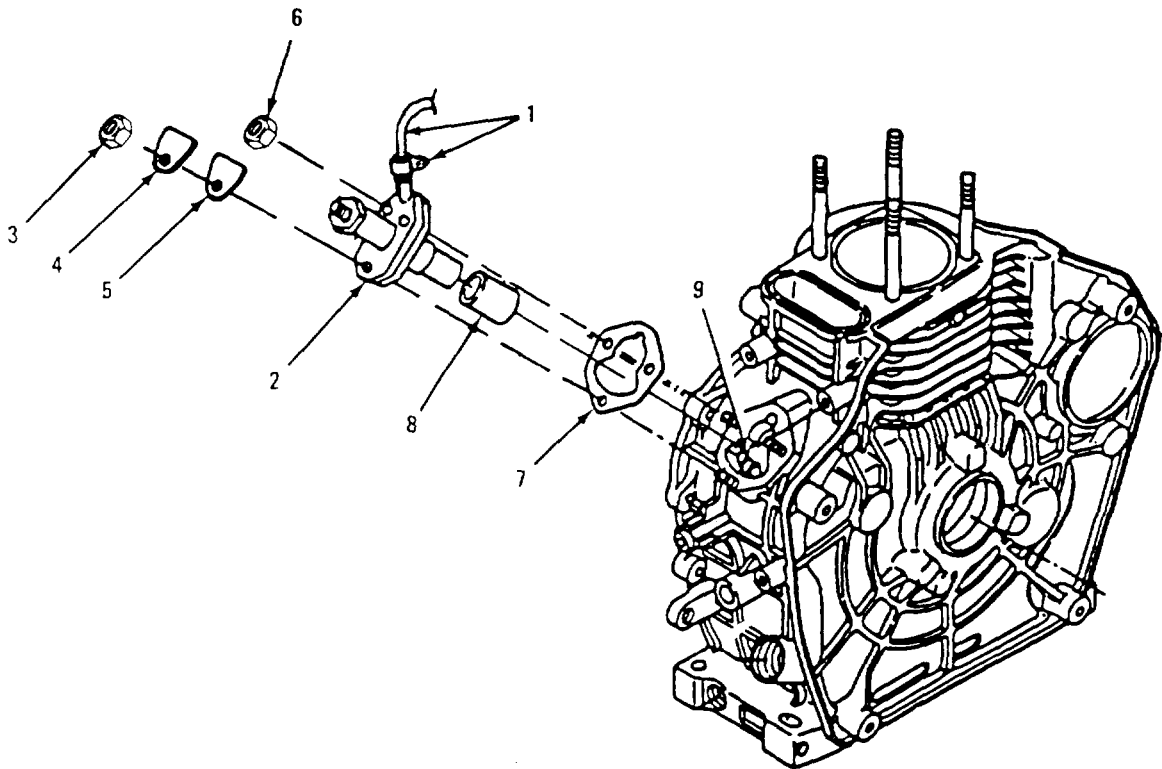

Figure 5-7. Replace Fuel Injection Pump
a. Removal (Refer to Figure 5-7)
- (1) Remove the clamp and hose (1) from fuel injection pump (2).
- (2) Loosen nut (3) securing pump viewing access plate (4) and gasket (5). Discard gasket (5).
- (3) Loosen two nuts (6) securing fuel injection pump (2), and remove fuel injection pump (2).
- (4) Remove metal shims (7).
- (5) If flat tappet (8) is not removed with fuel injection pump (2), then remove flat tappet (8) with fingers.
(Refer to Figure 5-7)